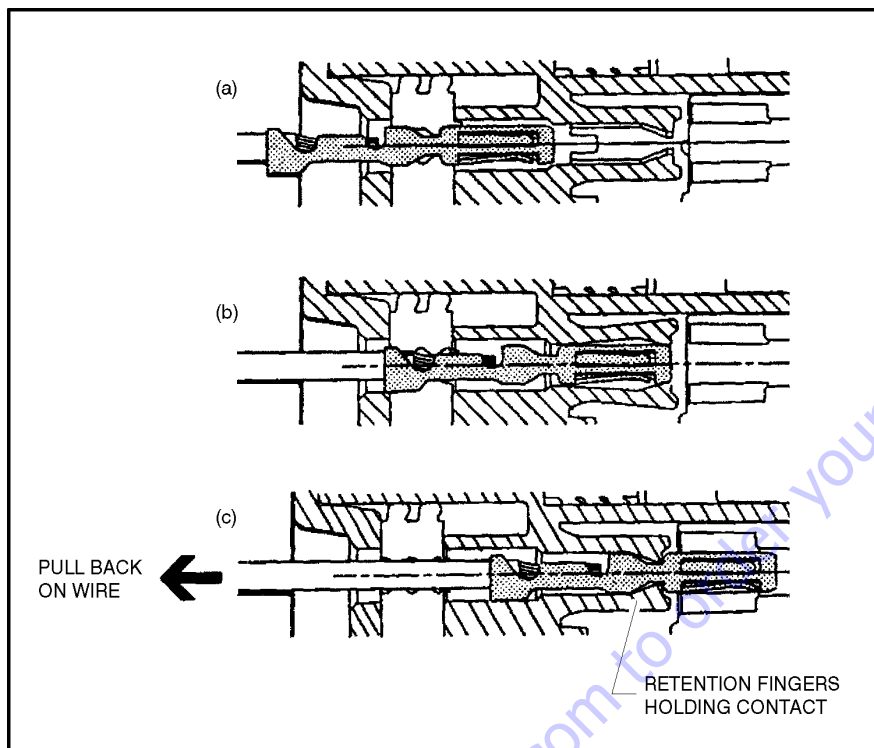

Figure 7-9. Connector Assembly Figure 2
1. To insert a contact, push it straight into the appropriate circuit cavity as far as it will go. (See Figure 7-9).
2. Pull back on the contact wire with a force of 1 or 2 lbs. to be sure the retention fingers are holding the contact. (See Figure 7-9).